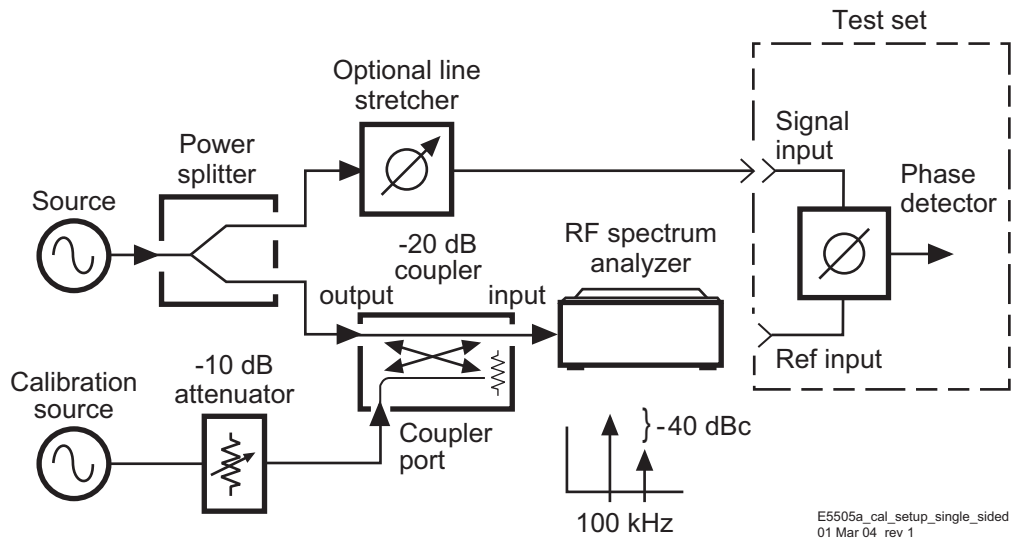

Figure 159 Calibration setup for single-sided spur
- 1 Connect circuit as per Figure 159, and tighten all connections. Note that the input signal into the directional coupler is being supplied to the coupler’s output port.